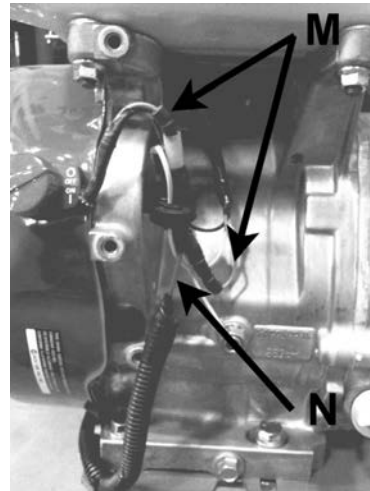
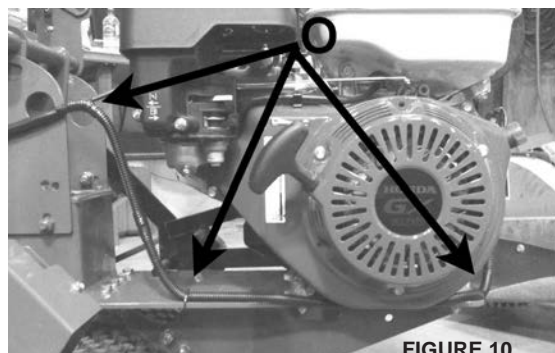

FIGURE 7
FIGURE 10
10. Disconnect red wires **M** and connect red wire from operator presence control **N** to the red wires you just disconnected.(Figure 7) Use zip ties to tie down wire harness as shown (Figure 10).
12. Attach the cut-off blade **2** and blade mount **1** with 3/8-16x1-1/4" screws and nylon inserts. (6 bolts and nuts for 18" (457mm) and 4 for 16" (406mm). (Figure 7)